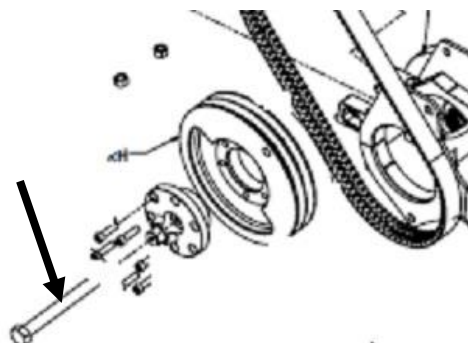

Figure 39
9. Install both flywheels. Make certain to line up the roll pins and cross-hatch on the flywheels and bearing housing. The bearing pin on the flywheels should be 180 degrees from each other. Retain the flywheels with the center bolt. Use Red Loctite and tighten the nut to 315 ft. lbs. Figure 39